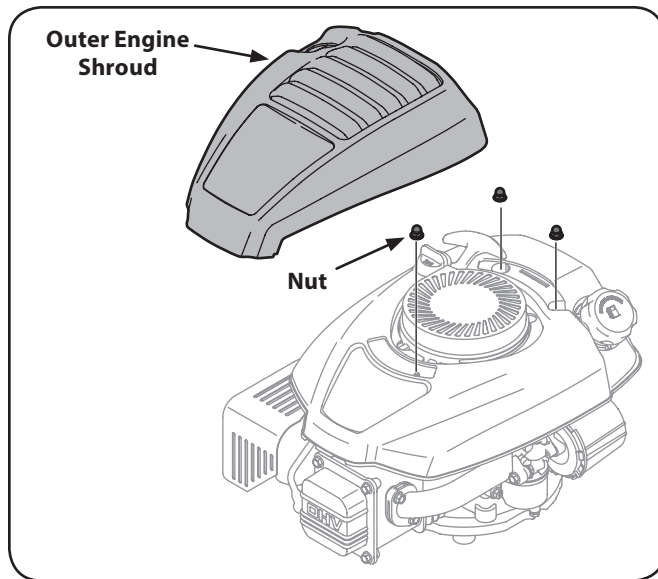

Figure 6-3
1. Remove outer engine shroud and nuts securing inner shroud as shown in Figure 6-3.